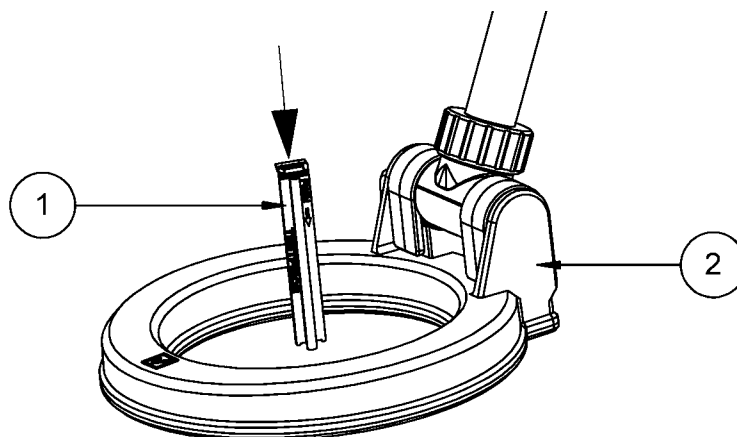

Fig. 6.2.2: Testing the detector: (1) Test piece; (2) Search coil
3. Move the test piece quickly to the center of the search coil, see fig. 6.2.2. If at least 7 LEDs are lit when reaching the search coil, the detector works correctly.